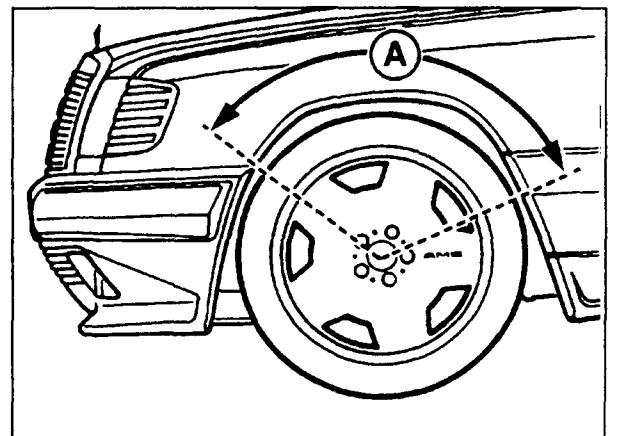

Figure 7
12. The inside edge of the front fenders must be rebent to an angle of 110° over the complete wheel cutout (A, Figure 7) to accommodate the wider wheels and tires.
15. The fender lip is reworked over the entire area (A, Figure 7) in several stages. A plastic hammer must be used to avoid damaging the paint.